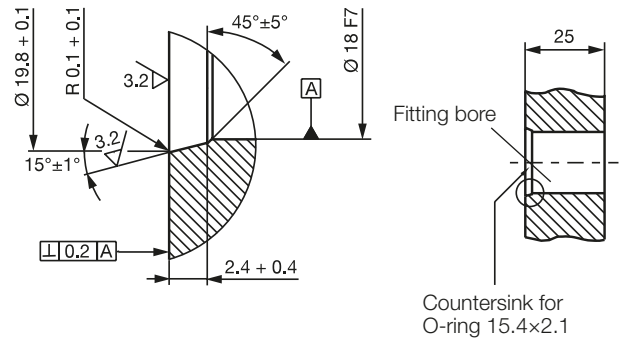

Fig. 4-3: Fitting bore for installing the BTL with O-ring
**Fitting bore:** The mounting surface of the transducer housing must make full contact with the supporting surface. A suitable O-ring must completely seal the bore, i.e. the countersink for the O-ring must be produced in accordance with Fig. 4-3.